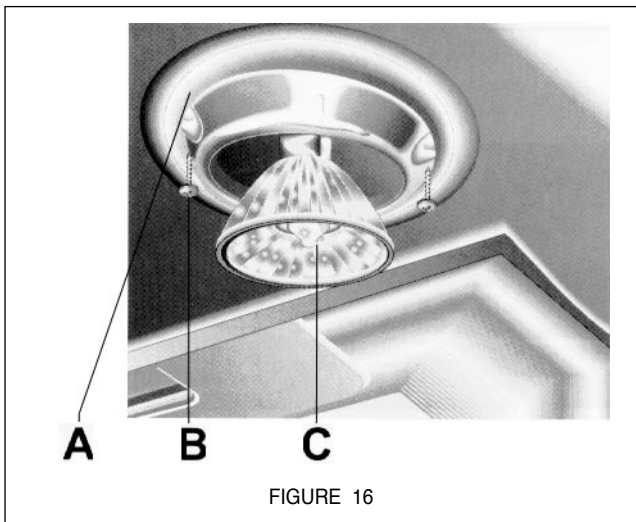

FIGURE 16
Before attempting to replace the lamps, make sure that the light switch is turned off. To replace the lamp, the bezel (A) around the lamp (C) must be removed as indicated in **FIGURE 16**. This bezel (A) is held in place by two screws (B). Remove the two screws and the bezel. Then remove the lamp and replace with a new lamp. Once the new lamp is in place, reinstall the bezel.